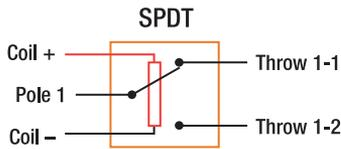

Figure 2-3. This SPDT relay has one pole, with two contacts (a three-way switch).
- **Single Pole, Double Throw (SPDT):** This type of relay uses one coil to operate one switch with three contacts (see Figure 2-3). The middle contact is for the load, the upper contact is for Voltage1, and the lower contact is for Voltage2 (or GND). This relay has five total contacts and is useful for switching one contact (Pole 1) between two different sources (Throw 1-1 and 1-2)—also called a three-way switch.